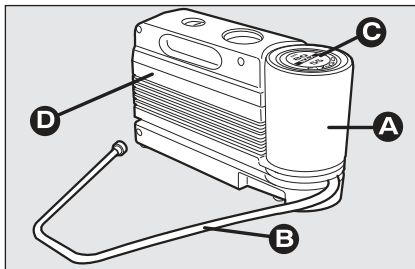

fig. 7
The kit **fig. 7** includes:
- compressor **D-fig. 7** including gauge and connections;